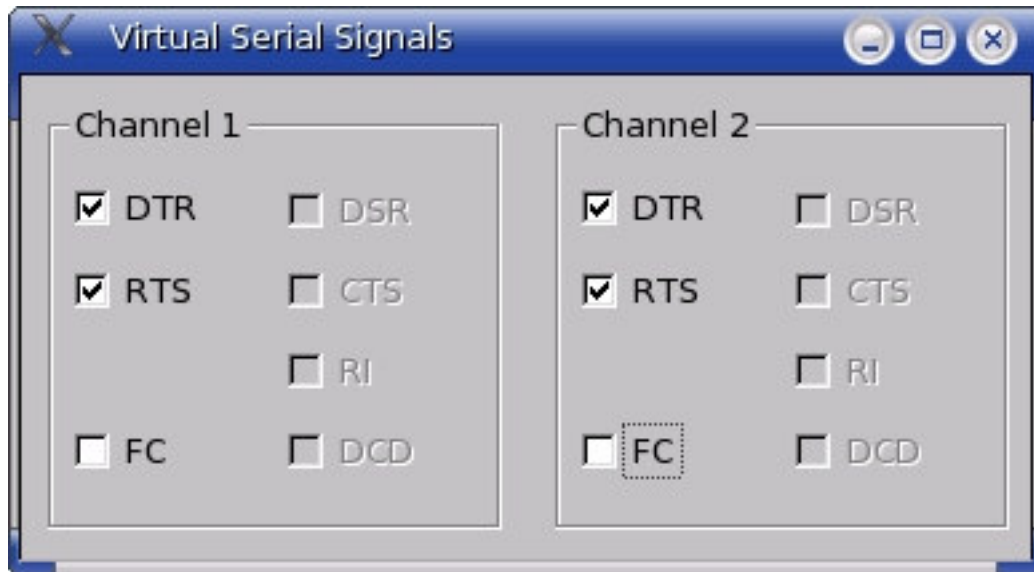

Figure 2: SerialSignals
Because of named pipe constraint, the GUI application must be started first. The application will wait for the mux driver to open the named pipe and the interface pops up (cf.: Figure 2: SerialSignals). This application relays modem status command for each DLC and the user can interact with virtual RTS, DTR and GSM 07.10 flow control (FC)